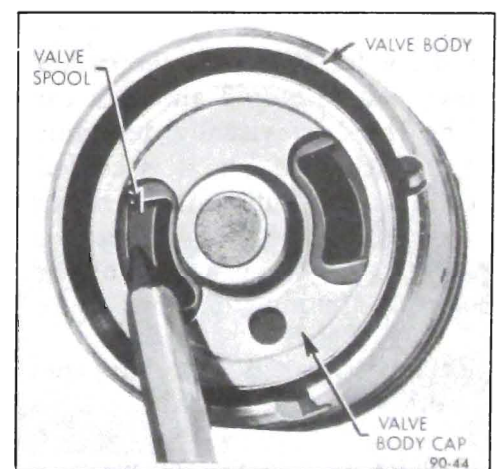
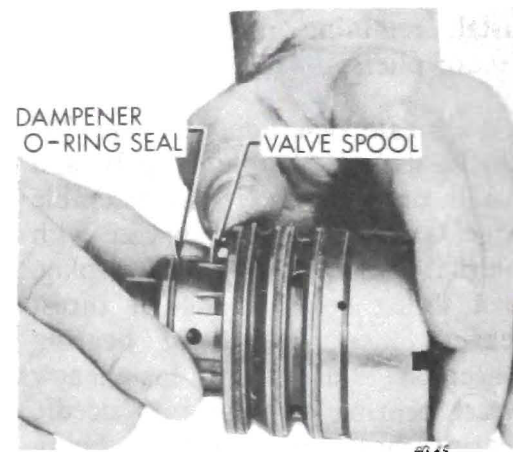

Figure 90-54 Separating Valve Spool From Valve Body
Figure 90-55 Withdrawing Valve Spool From Valve Body
3. Remove the valve spool by holding the valve assembly in one hand with the stub shaft pointing downward. Insert the end of a pencil or wood rod through the opening in the valve body cap and lightly push on the valve spool until it is far enough out of the valve body to be withdrawn. See Figure 90-54. Withdraw the spool with a steady rotating pull to prevent jamming. See Figure 90-55. If slight sticking occurs, make a gentle attempt to reverse the withdrawal procedure. If this does not free spool, it has become cocked in the valve body bore. Do not attempt to force the spool in or out if it becomes cocked, but continue with the following step.